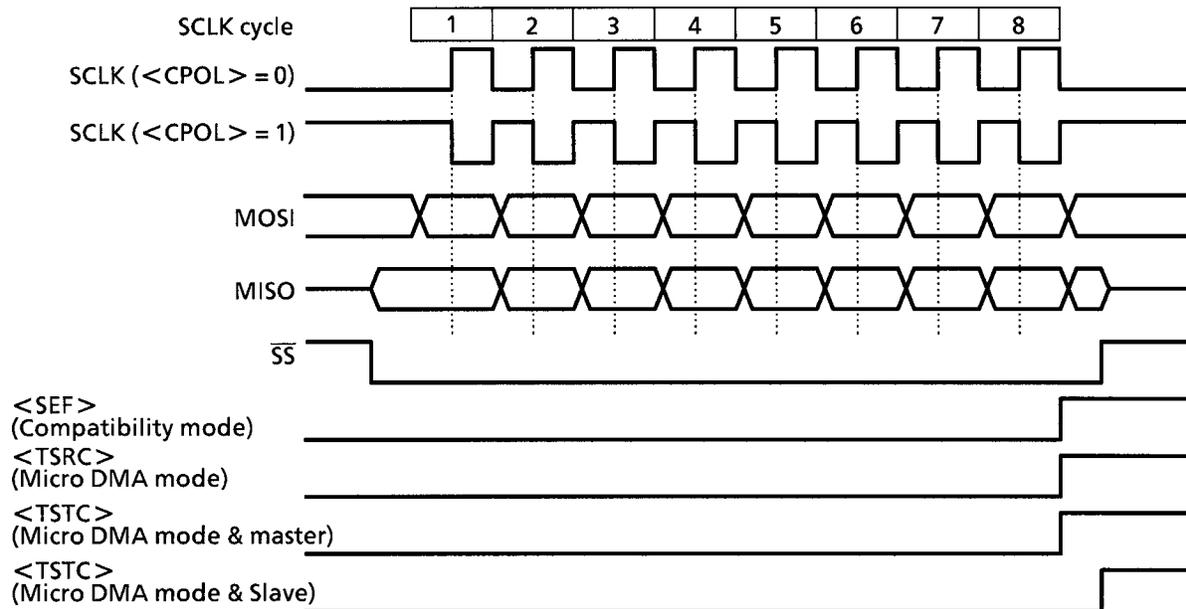

Figure 3.12.2 Transfer format of <CPHA>=0
Figure 3.12.2 shows the transfer format for a <CPHA>=0 transfer.
- Refer to figures 3.12.2 and 3.12.3.